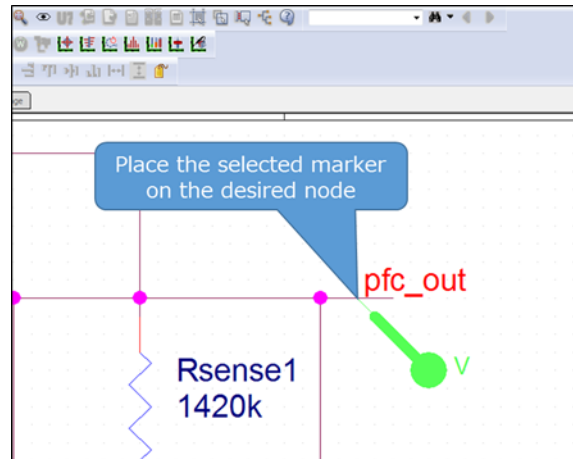

Fig. 5.9 Placing a marker in the circuit
- (2) Place the selected marker on the desired node in the simulation circuit as shown in Fig. 5.9.